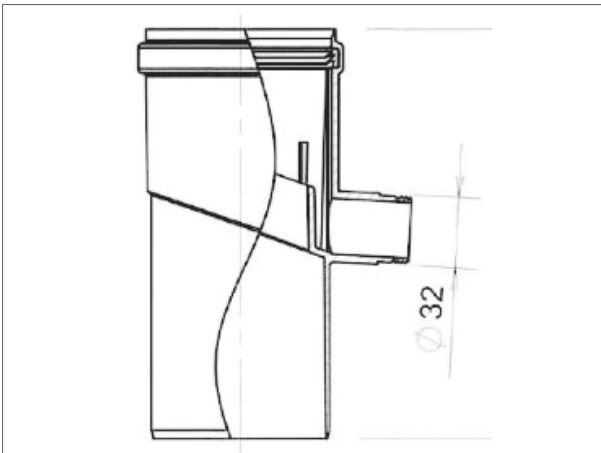

Figure 16 - Condensate drain
- Add a condensate drain (figure 16).